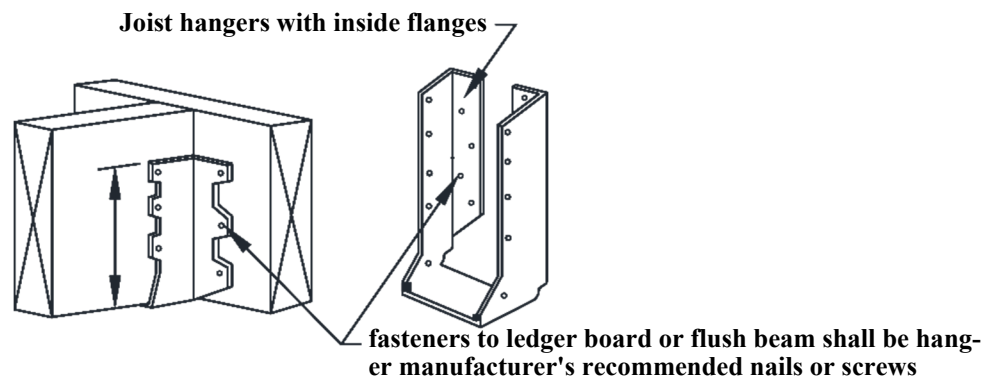

Figure 9: Joist Hangers
- Joist hanger depth, d , as shown in FIGURE 9, shall be greater than or equal to 60 percent of the joist depth.